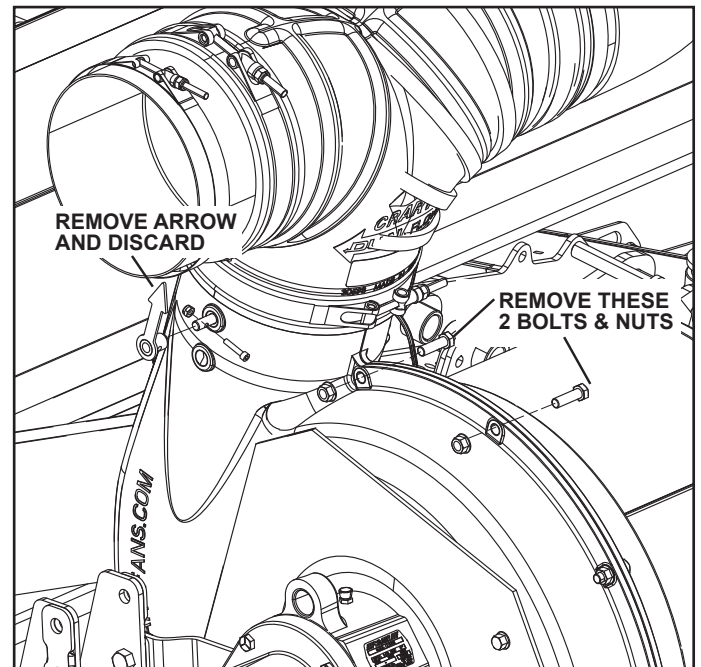

Figure 55: Prepping for Damper position indicator installed
1. To install the damper position indicator, remove existing arrow indicator, the hardware will be reused (Figure 55).
2. Loosen and remove two 3/8" bolts at top of fan casting, hardware will be reused (Figure 55).
On FD70 for Gleaner or CLAAS combines only: To prevent damage to the cab when fully raising the head, the tube mount kit on page 94 is required to relocate the center dual flow tube that passes over the feederhouse. Use the FD1 & FD75 dimensions in Figure 55 or similar to locate the two mounts. Failure to do so may cause damage to the cab.